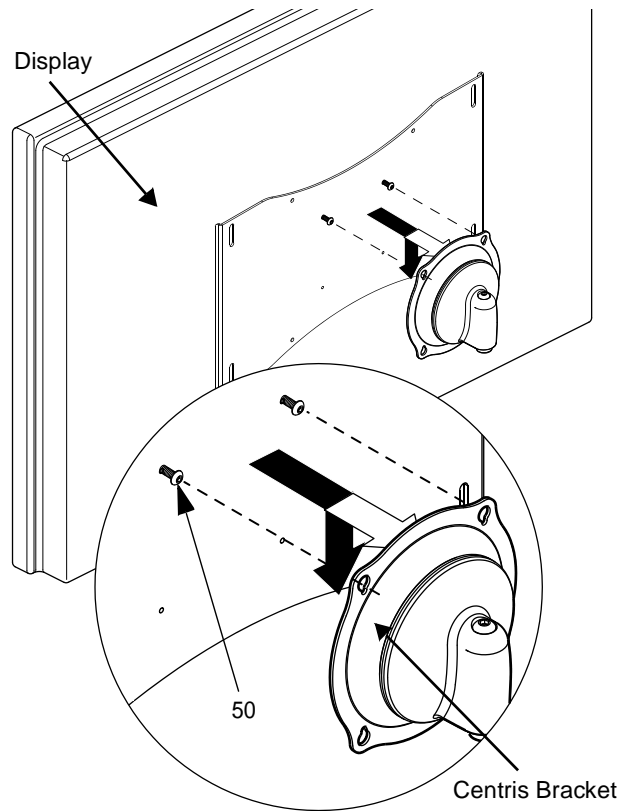
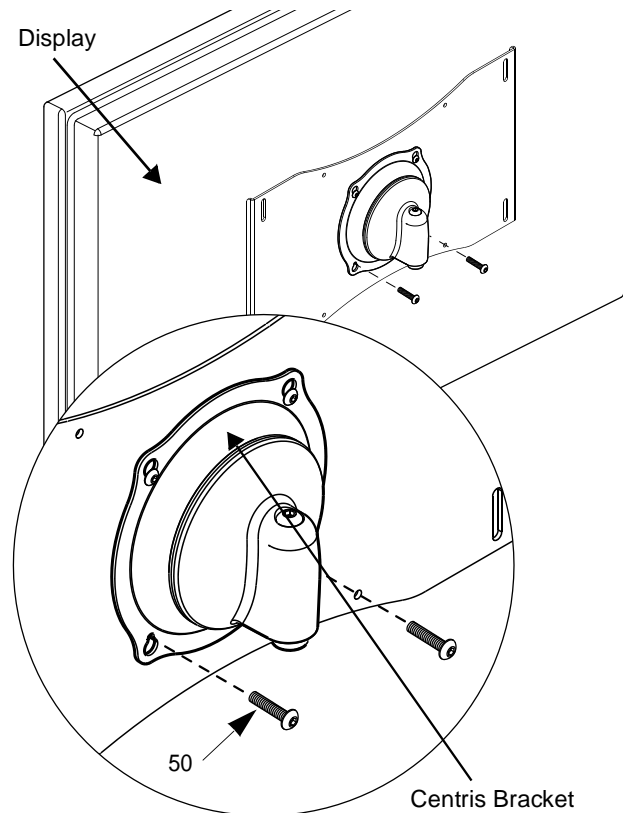

Figure 7: Attach Display to Centris Bracket
Figure 8: Attach Display to Centris Bracket
1. Start two M4 x 8mm Phillips pan head screws (50) into the top two mounting holes of the previously attached interface bracket. (see figure 7)
2. Hang the mount from the two screws (50) started in Step 1. (see figure 7)
3. Install the remaining two M4 x 8mm Phillips pan head screws (50) into the bottom two mounting holes of the display. (see figure 8)
4. Secure the display to the mount (Centris bracket) by tightening all four M4 x 8mm Phillips pan head screws (50). (see figure 7) and (see figure 8)